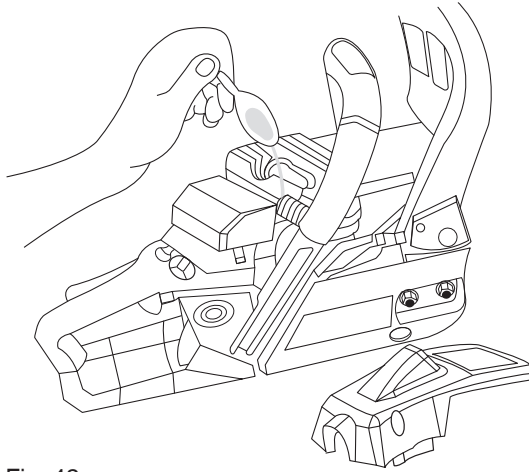

Fig. 42
4. Pour 1 teaspoon of clean 2-cycle oil into the combustion chamber (Fig. 42). Pull the starter rope slowly several times to coat the internal components.